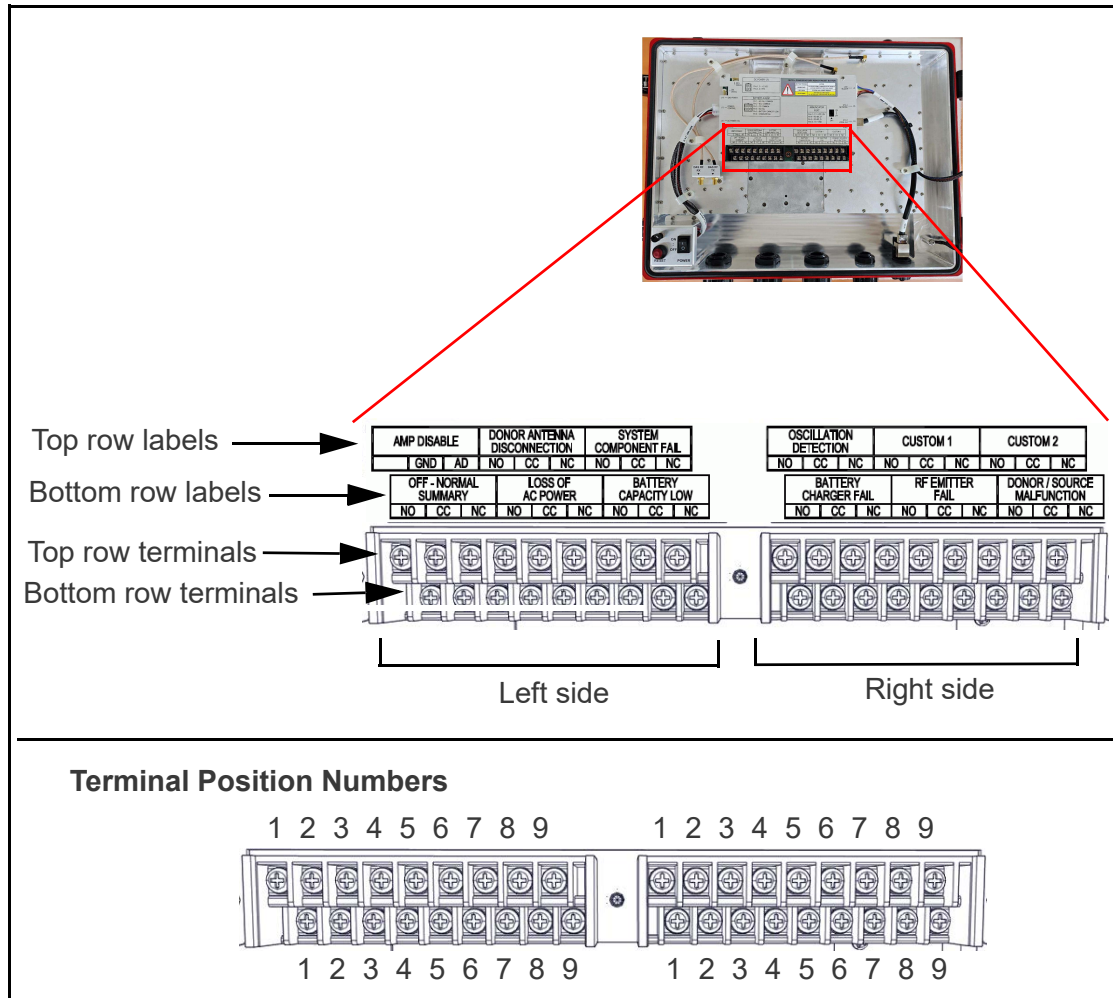

Figure 4-6 CS45 Series BDA Fire Alarm Control Panel terminals
4. Route the cable wire pairs through the ALARM port to the BDA Fire Alarm Control Panel terminals shown in Figure 4-6 using the connection information in Table 4-1. As shown in Figure 4-6, the top row labels identify the corresponding top row terminals, and the bottom row labels identify the corresponding bottom row terminals. Be sure to fasten the connector screws securely.